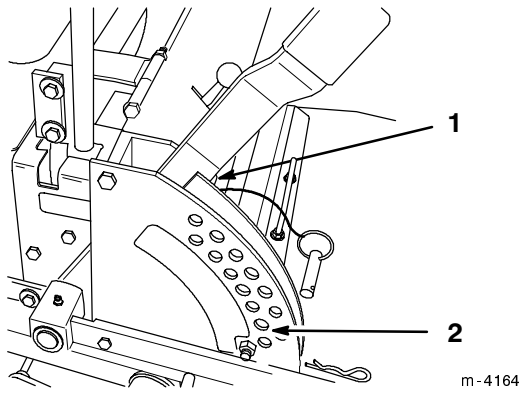

Figure 45
2. Check tire pressure of all four (4) tires. If needed, adjust to 13 psi (90 kPa)
4. Raise the deck to the transport position and take all force off of the two large deck lift springs by loosening nut in front of each spring (Fig. 45).
5. Place two 1-1/2" (38 mm) thick blocks under rear left and right lower edge of mower. Place one 2-1/4" (57 mm) block under front center lower edge of mower. Lower mower to the 2" (51 mm) height-of-cut position (Fig. 45).
1. Raise deck lift lever to the transport position, (Fig. 45).